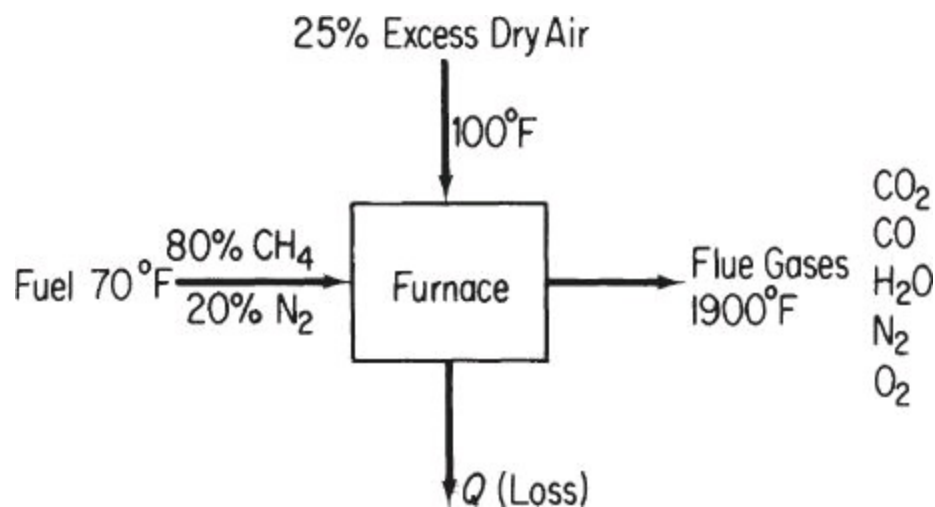

Figure P12.3
12.3. How many variables must be specified for the furnace shown in Figure P12.3 to absorb all the degrees of freedom?